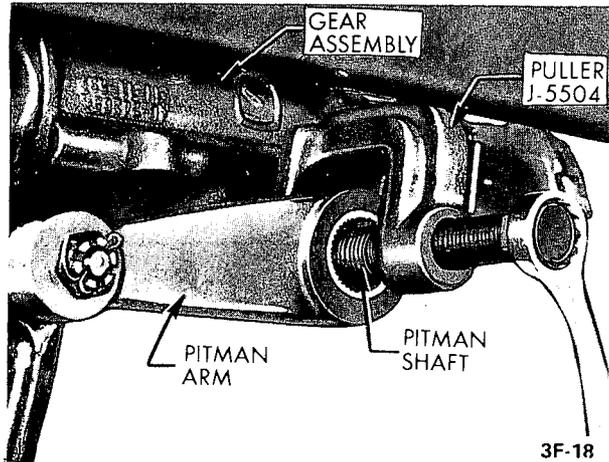

Figure 3F-8 - Removing Pitman Arm From Pitman Shaft
1. Remove pitman arm nut and disconnect pitman arm from pitman shaft using puller J-5504. See Figure 3F-8. Do not hammer on end of puller.